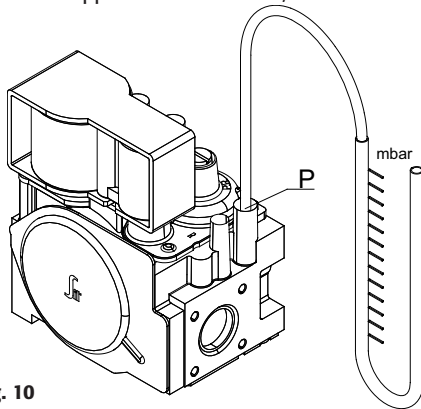

fig. 10
- Unscrew screw "P" (fig. 10) on the pressure outlet of the valve.